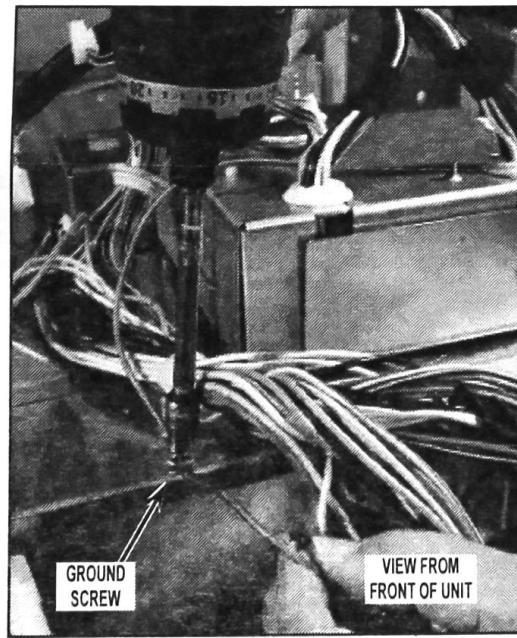

FIGURE 11
13. Reconnect ground from HV assembly together with system ground into cabinet as shown in Figure 11.